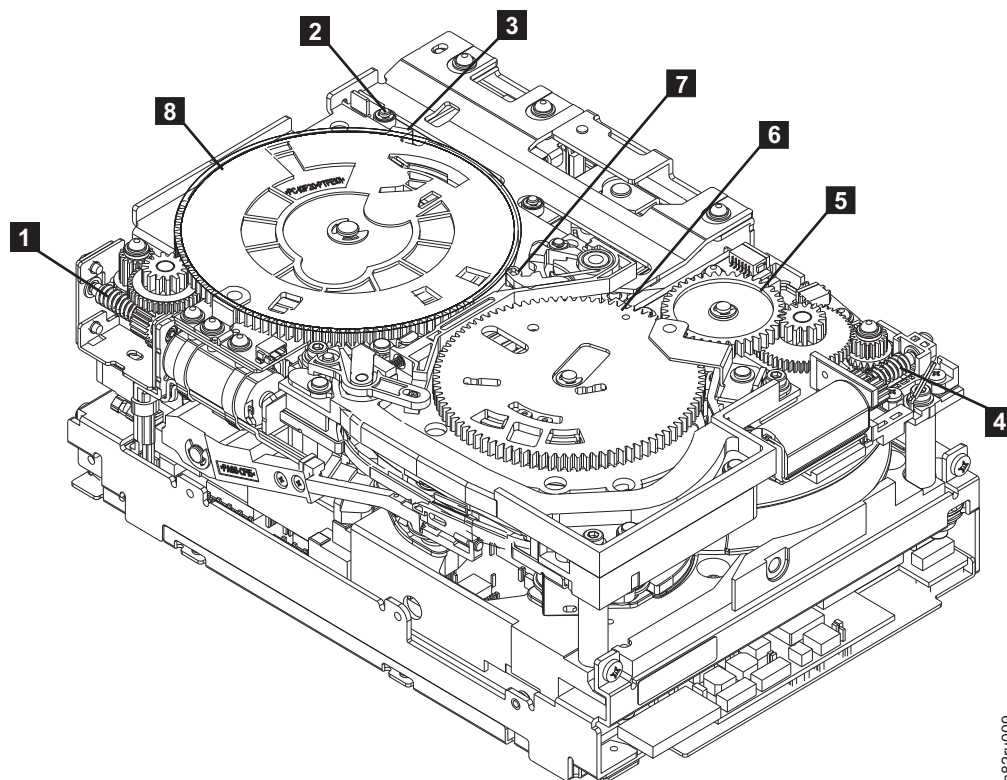
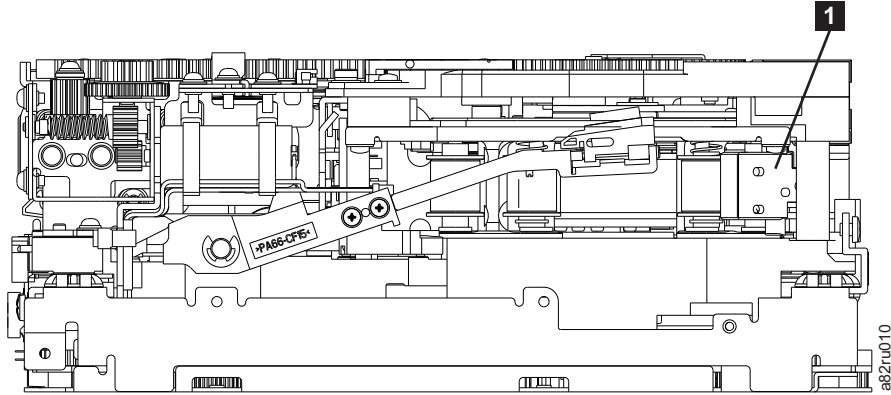

Figure E-14. Drive with cover removed to reveal gear train
Figure E-15. Leader Block Assembly (LBA)
5. Locate the threader motor worm gear (**4** in Figure E-14 on page E-15) on the rear of the drive. Use your finger to rotate the threader motor worm gear and slowly rotate the threader mechanism gear (**6** in Figure E-14 on page E-15) clockwise. This rotates the threader motor worm gear (**4** in Figure E-14 on page E-15) clockwise, drawing the LBA into the cartridge.
6. As the tape leader block assembly (LBA) is secured in the cartridge, you should hear the LBA retention spring clips click into place. If you do not hear the click, continue rolling until the threader motor worm gear (**4** in Figure E-14) stops. The LBA is in the correct position.
- a. Loader mechanism gear (**6** in Figure E-14) nearest the front of the drive that actuates the cartridge loader mechanism.
- b. Position of the rotate stub (**3** in Figure E-14).
- c. Front loader motor worm gear (**1** in Figure E-14). Rotating this gear allows the loader mechanism gear (**8** in Figure E-14) to turn.
8. Rotate the loader motor worm gear (**1** in Figure E-14) to turn the loader mechanism gear (**6** in Figure E-14) counterclockwise. Continue turning until the rotator stub (**3** in Figure E-14) loses contact with the lever (**7** in Figure E-14). This releases the LBA leader pin.
9. Rotate the threader motor worm gear (**4** in Figure E-14 on page E-15) to turn the threader mechanism gear (**6** in Figure E-14 on page E-15) counterclockwise. This moves the LBA out of the cartridge and past the read/write head. Stop this rotation when the LBA is near the tape guide roller nearest the rear of the drive shown as **1** Figure E-15.
10. Continue rotating the loader motor worm gear (**1** in Figure E-14 on page E-15) until the rotator stub (**3** in Figure E-14 on page E-15) is positioned as shown. Notice that the rotator stub (**3** in Figure E-14 on page E-15) is nearly aligned with the cartridge loader tray guide bearing (**2** in Figure E-14 on page E-15).